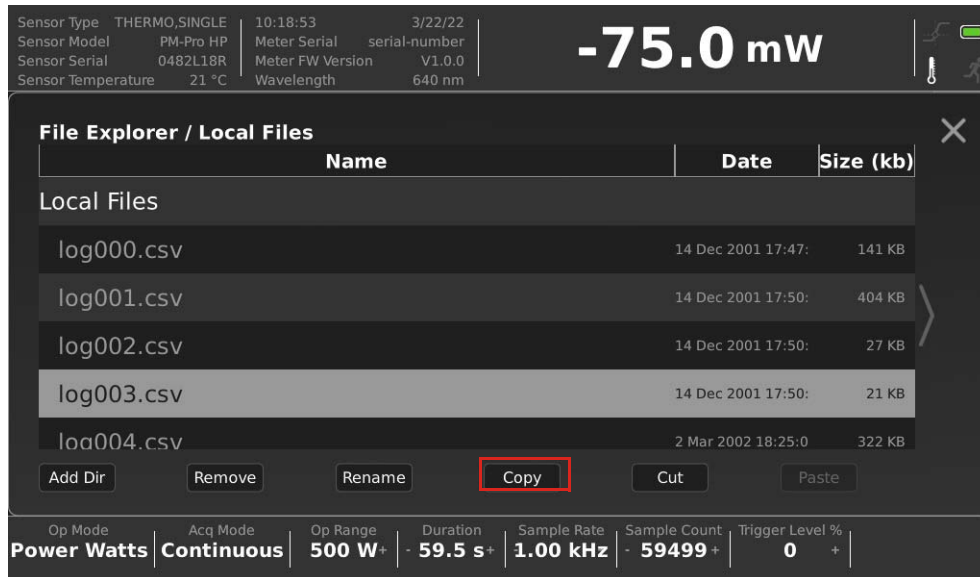

Figure 6-29. List of Local Log Files
4. Navigate to find the file to copy. Refer to Figure 6-29.